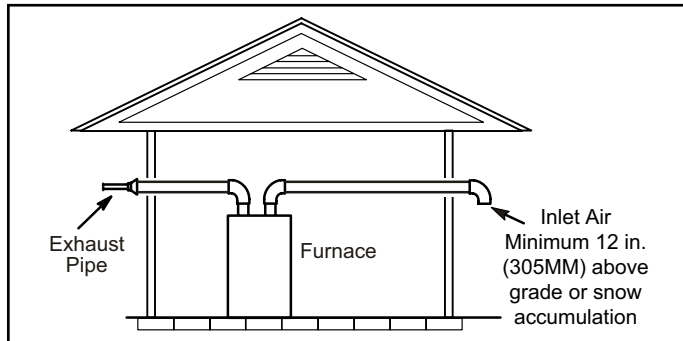
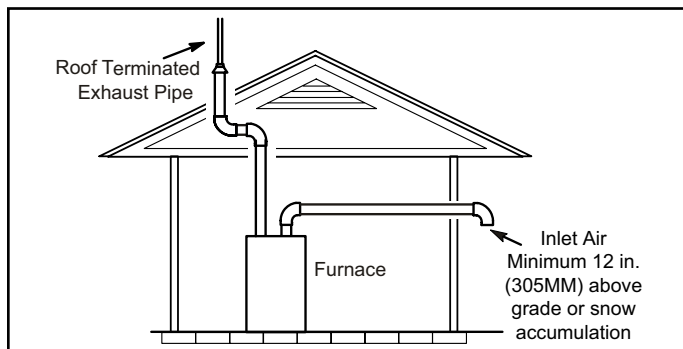

Figure 29. Exiting Exhaust and Intake Vent (no common pressure zone)
Figure 30. Exiting Exhaust and Intake Vent (no common pressure zone)
Intake and exhaust pipes may be routed either horizontally through an outside wall or vertically through the roof. In attic or closet installations, vertical termination through the roof is preferred. Figure 29 through Figure 40 show typical terminations.
1. Intake and exhaust terminations are not required to be in the same pressure zone. You may exit the intake on one side of the structure and the exhaust on another side (Figure 29). You may exit the exhaust out the roof and the intake out the side of the structure (Figure 30).